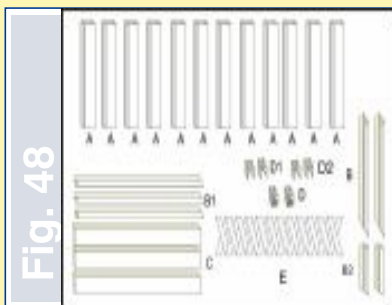

Fig. 48
1. Each cardboard box contains - Fig. 48
- 12 panels (A)
- 2 fixing cross-pieces (C)
- grid (E)